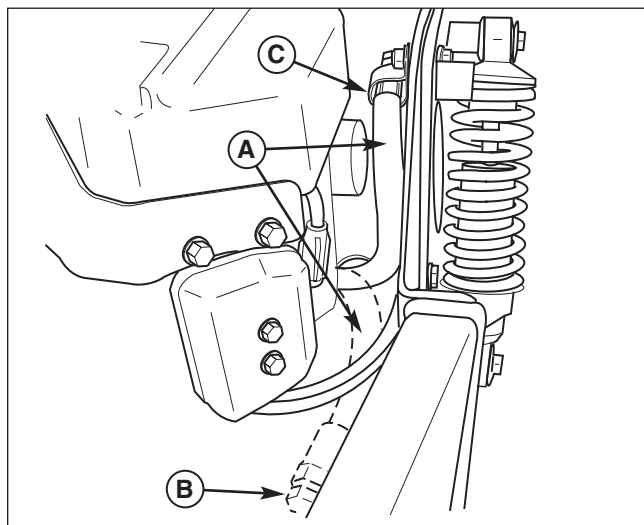

Figure 15. Engine Oil Drain
2. Remove the oil drain hose (A, Figure 15) from the cable clamp (C) on the right-hand side of the frame and route the hose towards the rear of the machine as shown in Figure 15.
3. Place a small pan under the oil drain hose to catch the oil. Using the appropriate tools, remove the cap (B, Figure 15) from the oil drain hose (A) and drain the engine oil.